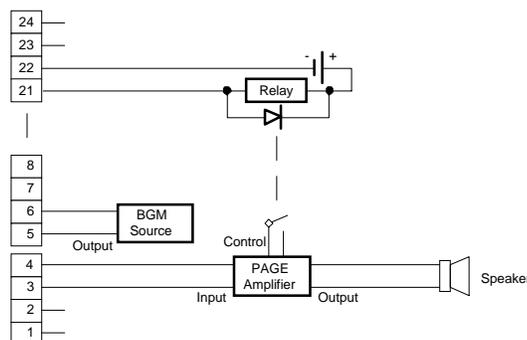

FIGURE 43. PAGING THROUGH A P.A.AMPLIFIER
7. Connect the page amplifier power control relay (SLAVE) to the PAGE CONTROL(+) and (-) pins on the punchdown block as illustrated in Figure 43.
2. Figure 43 illustrates the relay connections for P.A. system including the page amplifier, BGM amplifier,and zone speakers.